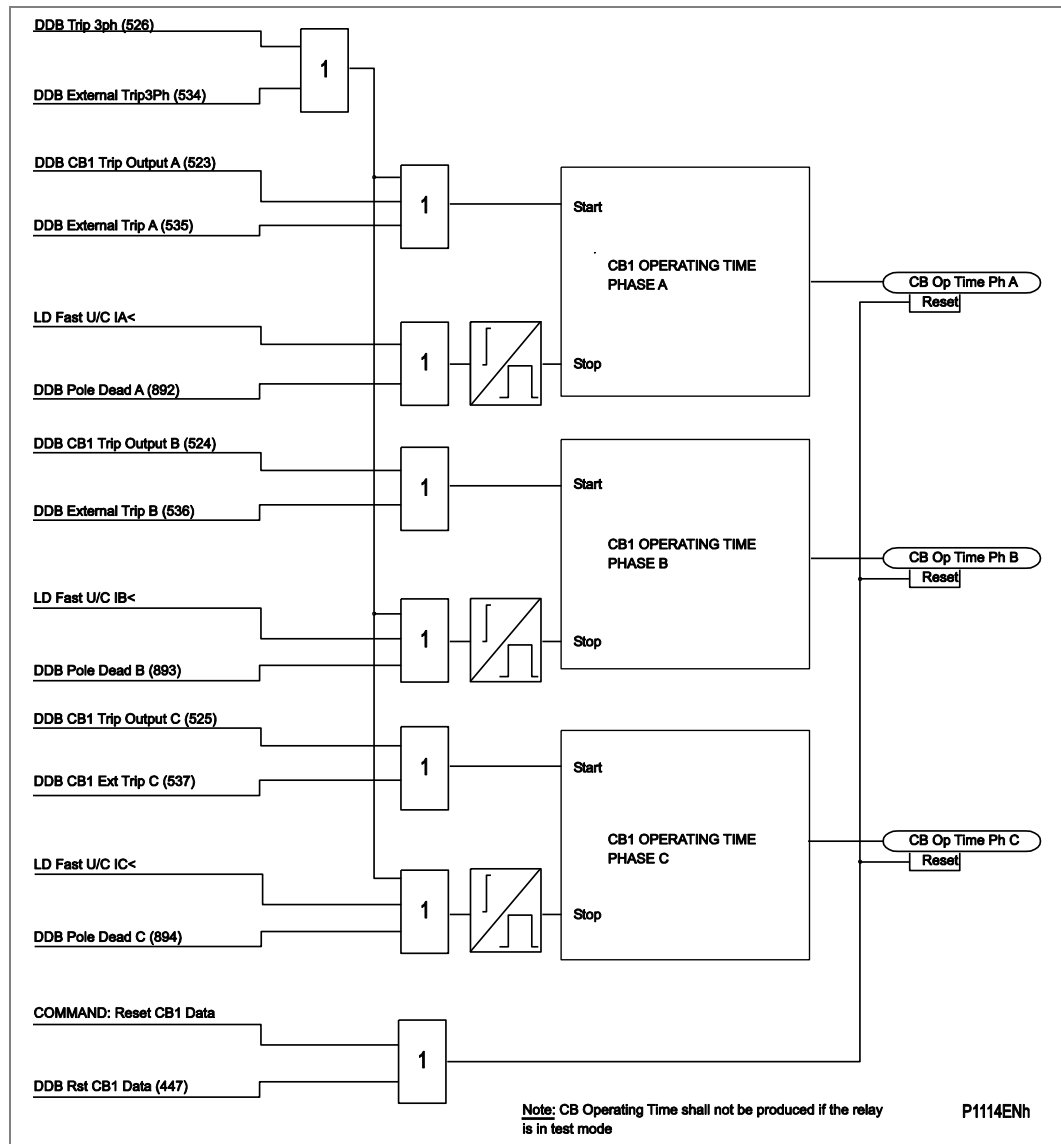

Figure 111 - CB1 condition monitoring - operation time
- Figure 111 - CB2 condition monitoring - operation time